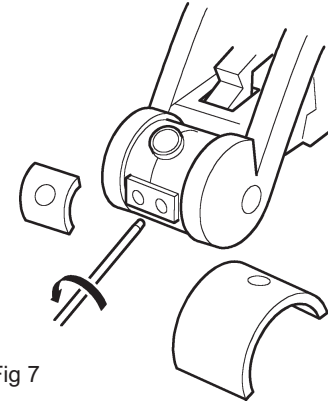

Fig 7
- Unscrew the 2 screws which are under the soft dock by using the special torx tool (UK version only). (Fig. 7)